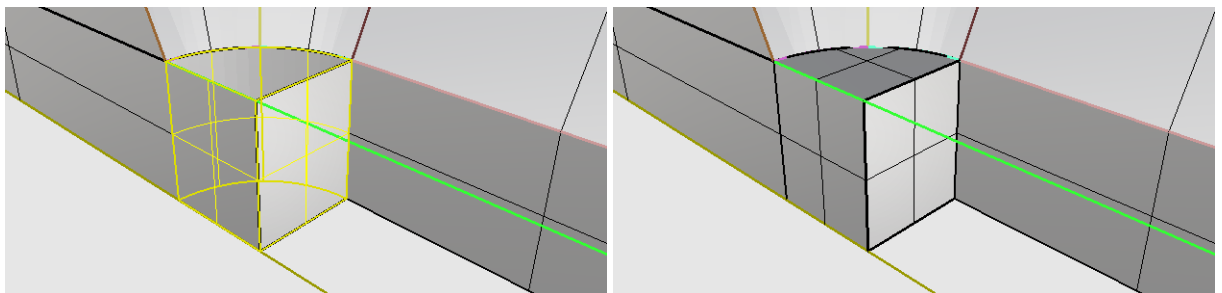

Figure 80: Building a quarter-cylinder solid. Left, the lateral surfaces. Right, the completed solid.
5. Use **_ExtractSrf** and click on the 2 cylindrical surfaces, then press **<ENTER>**. While the two surfaces are selected, hold the **<Shift>** button down and select the **two** small rectangular surfaces you just built. With these **4** surfaces selected, **Edit|Join** them into a **Polysurface** (Figure 80, left). With the **Polysurface** selected, select **Solid|Cap planar holes** to turn it into a solid (right).